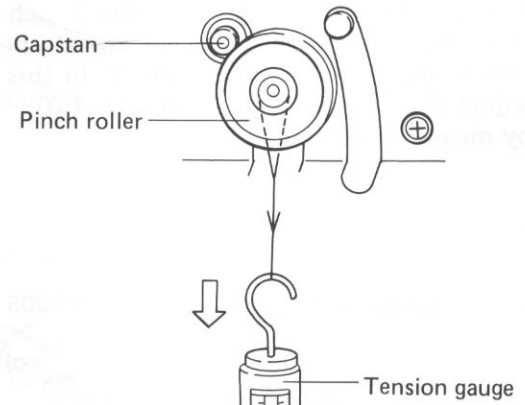

Fig. 7-6 Pinch roller pressure adjustment
2. Put the unit into PLAY mode, but without any tape in the reels, and pull the tension gauge straight down while gently pressing against the cap of the pinch roller by hand (see Fig. 7-6). Then check that the pinch roller disengages the capstan within the 1.2—1.4kg tension gauge reading range, and that the pinch roller ceases to rotate.